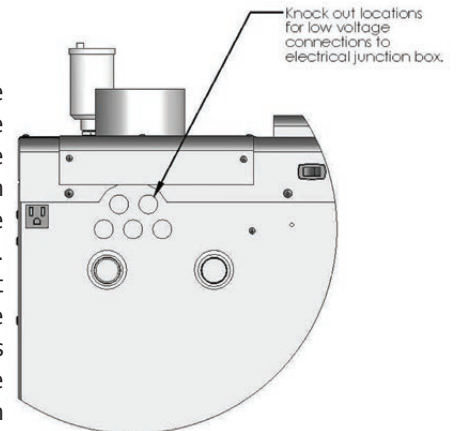

Figure 21 - Knockout Locations
1. All low voltage cables should enter the electrical junction box through the provided knock out holes as shown in Figure 21.